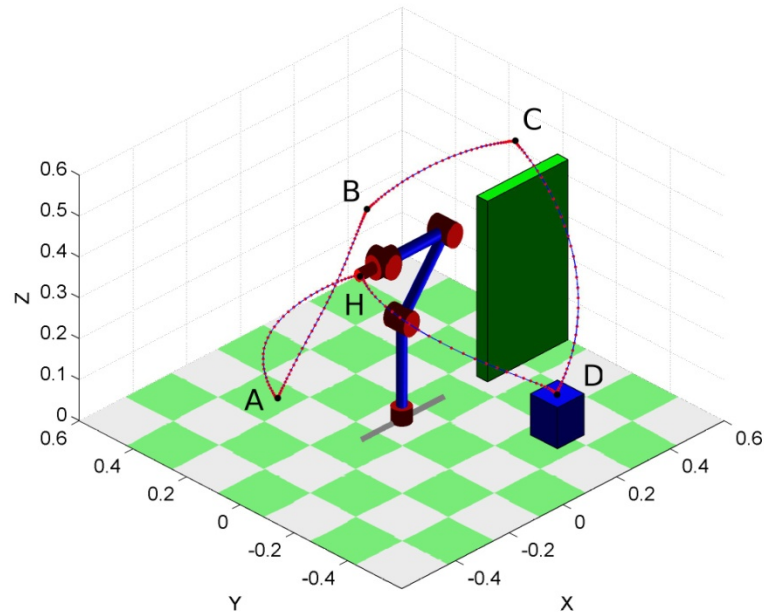

Fig. 03: Trajectories generated during the manipulator task
- 2 The home (idle) position (Fig. 03, **H**) and orientation of the manipulator end-effector is XYZ (-0.146, 0, 0.409) and RPY (0, -90, -180) respectively. First, set the robotic manipulator to the home position (XYZ in meters and Roll, Pitch, Yaw in degrees).
- 3 Your task is to pick an object located at **A** (see the Fig. 03), then moves it along a straight line (constrained) to position **B** and need to place it at **D**. However, there is a wall in between **B** and **D**. Therefore, move the object via position **C** (above the wall). After placing the object, set the manipulator back to the home position (**H**). Position and orientation of the end-effector at each location is given below;
(Note: you do not need to create the wall and the box as in Fig. 03)
You must submit the Matlab code, five figures in 4 (Last figure should look-like Fig. 03 without the wall and the box) compiled into a single word page, an animation (avi file) showing the robot end-effector moving from H to A-B-C-D and back to H.